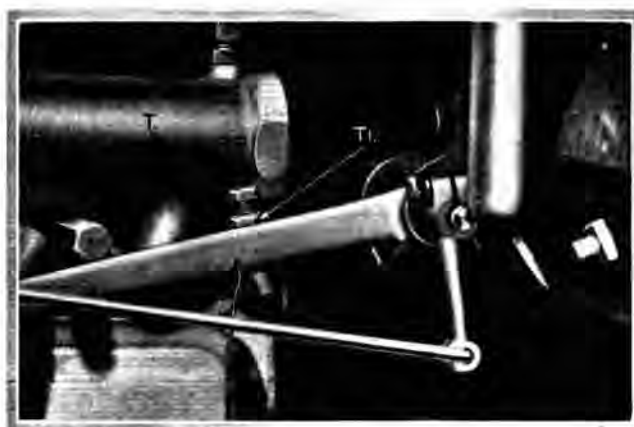

Fig. 3.—The lost motion adjustment on the throttle lever.
If the clutch engages and tends to stall the engine, too much lost motion is indicated. This is corrected by taking off lock nut (T1) (see Fig. 3) and giving bolt (T) a fraction of a turn clockwise. If, on the other hand, speed has increased unnecessarily before the clutch commences to take up the drive, too little lost motion is indicated. Unscrew bolt (T) a fraction of a turn, and try again.